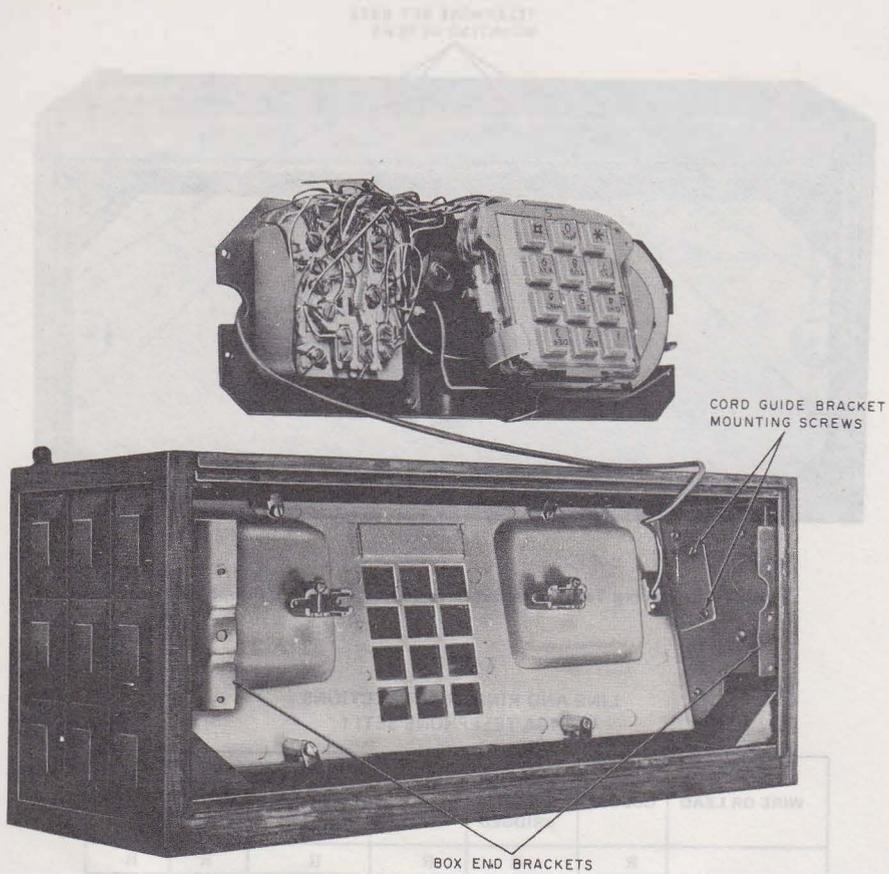

Fig. 8—Removing Cord Reel Plug from 910A or 2910A Telephone Set
- (5) Withdraw the base slowly permitting the cord to withdraw from the cord reel until access is gained to the inside of the box so that the two screws holding the cord guide bracket to the box end bracket may be reached.
- (6) Remove one cord guide bracket screw and loosen the other, and slide bracket to one side and withdraw the cord through the faceplate hole (Fig. 8).
- (7) Install appropriate dummy dial from the appropriate D-kit of parts listed in Table A.